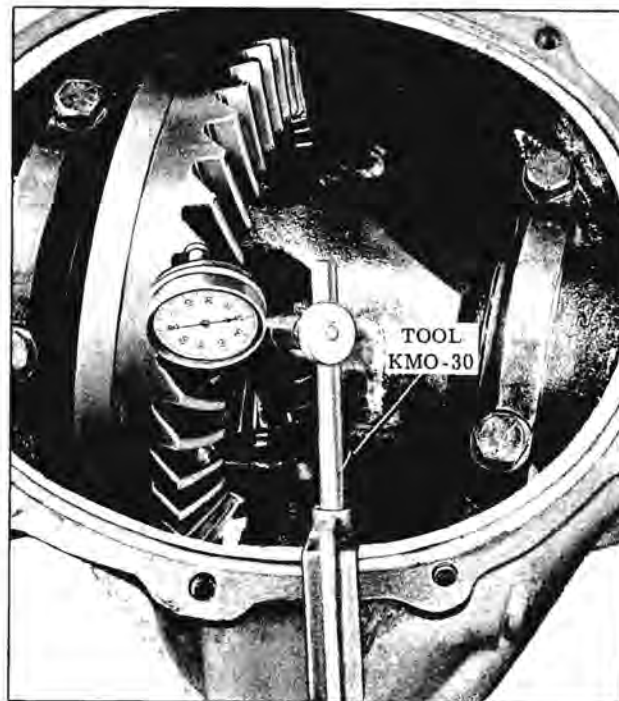

Fig. 6-131 Adjusting Backlash
1. With pinion and case in carrier and all bolts torqued, install the clamp and dial indicator as shown in Fig. 6-131.